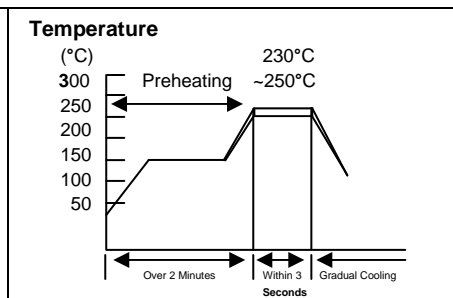

Figure 2. Wave Soldering
It is important to avoid the possibility of thermal shock during soldering and carefully controlled Preheat is therefore required. The rate of preheat should not exceed 4°C /second and a target figure 2°C /second is recommended. Although an 80°C to 120°C temperature differential is preferred, recent developments allow a temperature differential between the component surface and the soldering temperature of 150°C (Maximum) for the components of 1210 size and below with a maximum thickness of 1.25mm. The user is cautioned that the risk of thermal shock increases as chip size or temperature differential increases.
- (2) Solder Wave: Wave soldering is perhaps the most rigorous of surface mount soldering processes due to the steep rise in temperature seen by the circuit when immersed in the molten solder wave, typically at 240°C . Wave soldering of ceramic chip inductors larger than 1812 size is discouraged due to the risk of thermal damage to the inductor. The recommended temperature profile for wave soldering is shown in Figure 2.